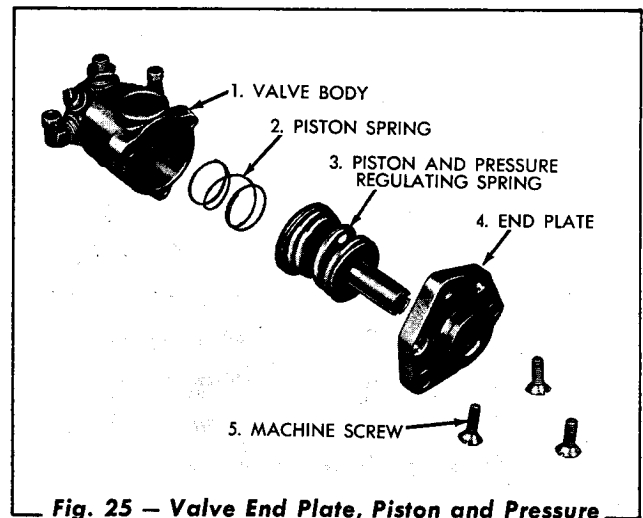

Fig. 25 — Valve End Plate, Piston and Pressure Regulating Spring, Piston Spring, and Valve Body
9. Remove the machine screws from the end plate (Fig. 25). Remove the piston and pres-